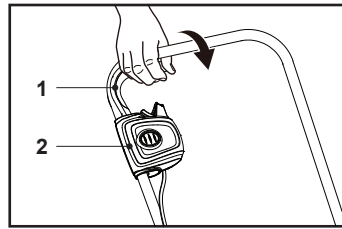

Fig. 14
2. To switch off, release the start/stop lever (1) (Fig. 14).